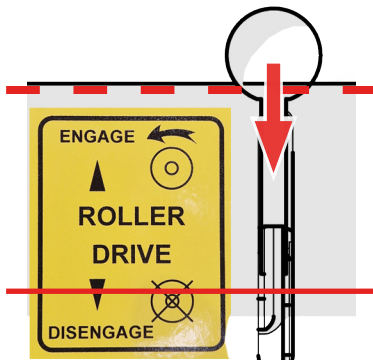

Fig.10E - Disengage the drive lever.
8. To **stop moving**, pull the Drive Lever towards the rear to the 'disengage' position - the cassette will continue to spin if the OPC is also depressed (Fig.10E).